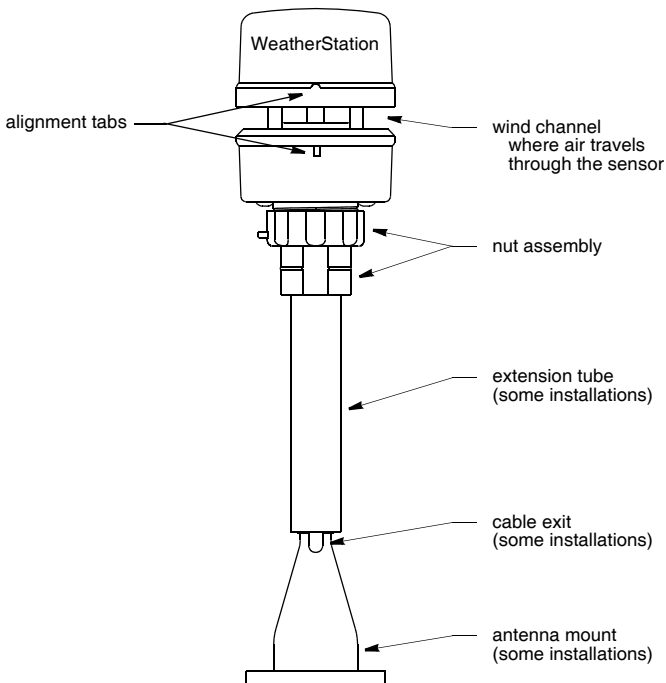

Figure 5. Permanent installation with antenna mount
1. Place the mount at the selected location. Orient any cable exit in the direction that you want the cable to travel (see Figure 5).
4. Being sure the alignment tabs are facing properly, slide the captive nut upward and screw it onto the base of the WeatherStation instrument (see Figures 5 and 6). **Hand-tighten only.** Do not over tighten. Be careful not to rotate the WeatherStation instrument or loosen the nut assembly from the antenna mount/extension tube. *Double check to be sure the alignment tabs are still facing properly.*